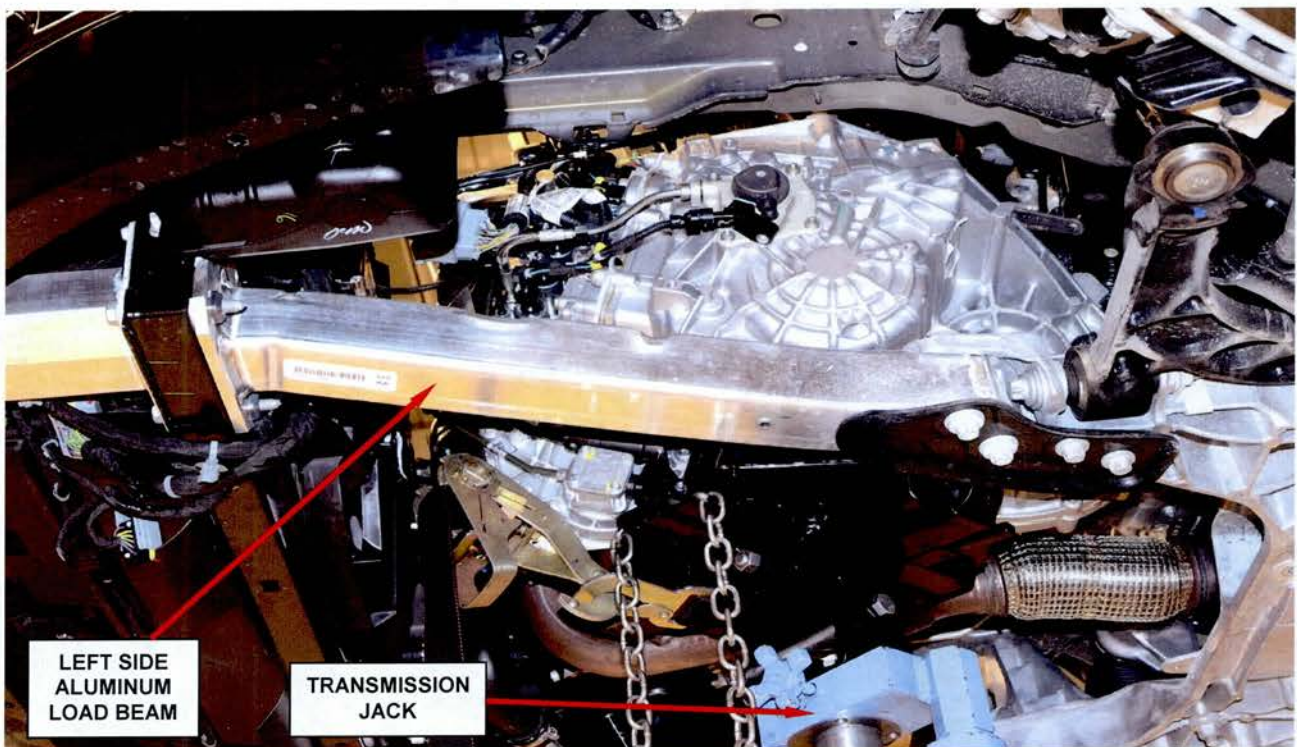

Figure 10 – Left Side Aluminum Load Beam
34. Place a transmission jack under the transaxle and strap the transaxle to the transmission jack to ensure the transaxle does not fall during removal (Figure 10).
36. Remove and save the left side aluminum load beam (Figure 10).
- c. Using the transmission jack, raise the transaxle up and install the left side aluminum load beam (Figure 10).